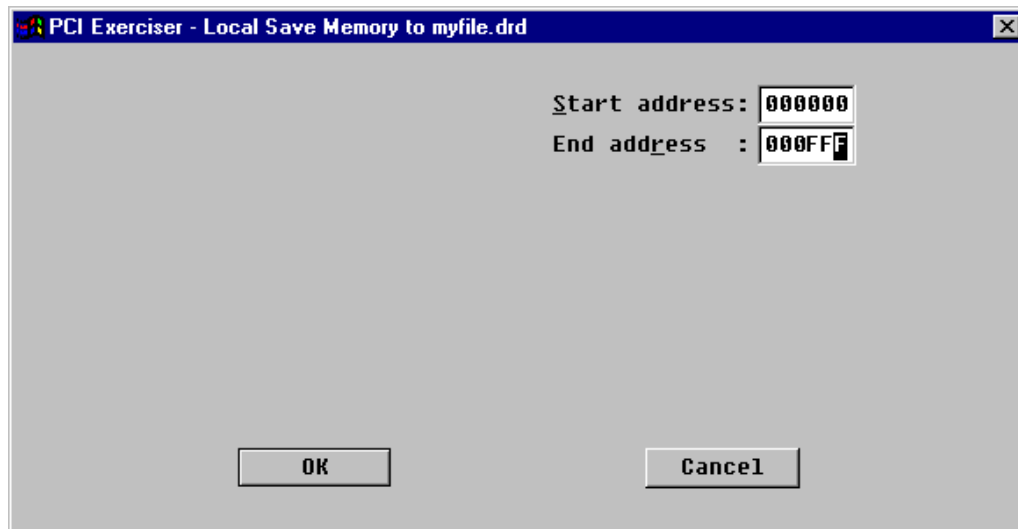

Figure 6.45 Local Save command
- Local menu:** Select `Save Memory to File` from the `Local` menu, and a dialog box asking for a file name appears. Select a file, and press the OK button. The dialog box in Figure 6.45 appears.
In the above example (see Figure 6.45), The PCI Exerciser will read the Local User Memory from start address 0x0 to end address 0xFFFF (inclusive), and save the data to the file myfile.drd.